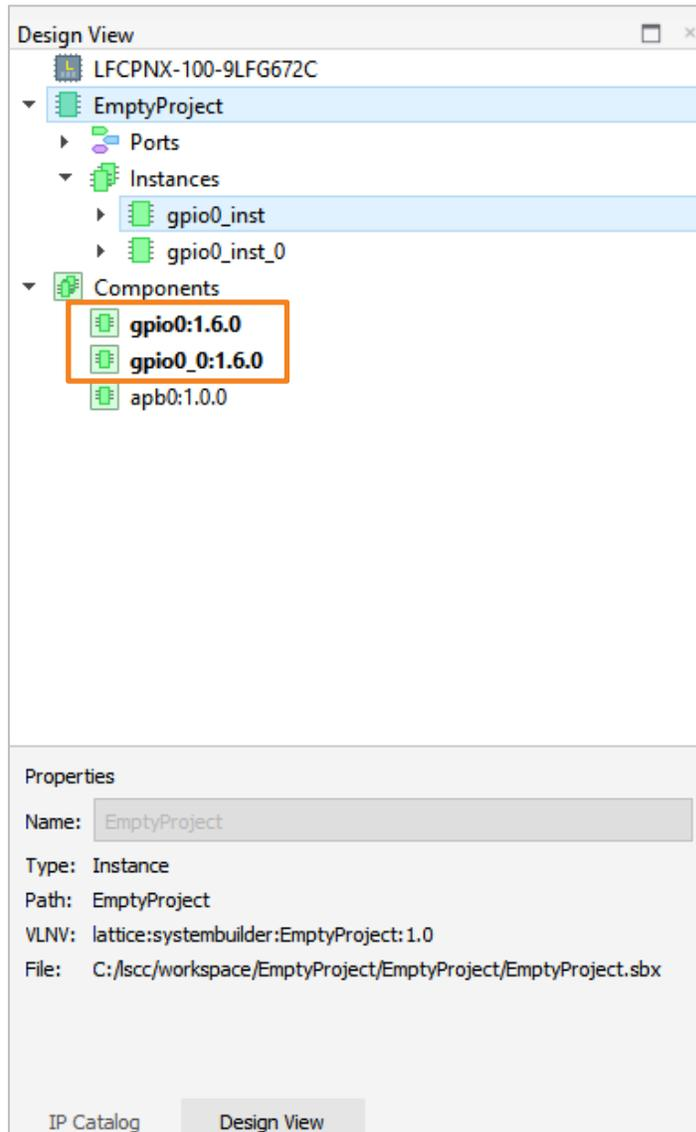

Figure 2.37. Design View
1. In the List view of the Design View (Figure 2.37), go to the Components folder. The deleted module can still be found in the List view in plain text. Those not deleted are shown in bold-faced text.